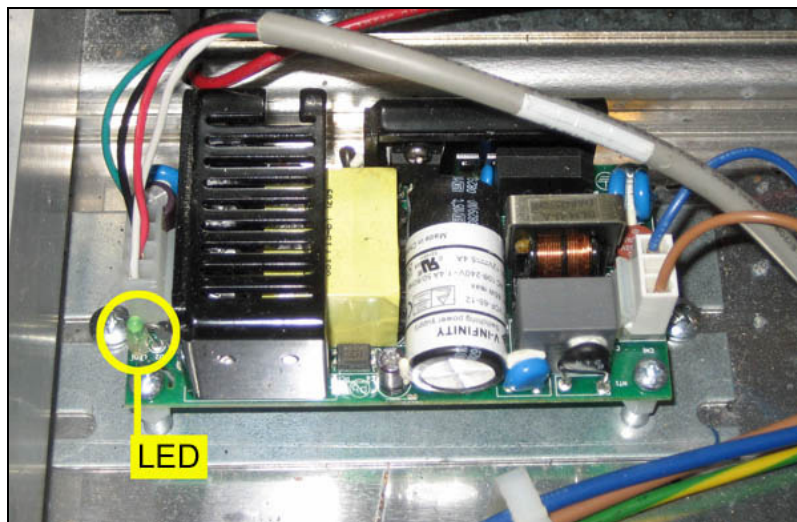

Fig. 1
2. Lift the motor shroud and visually check the power supply to ensure that there is an LED (Fig. 1) lit. This LED will be lit when there is voltage being supplied to board and the board is in working order.